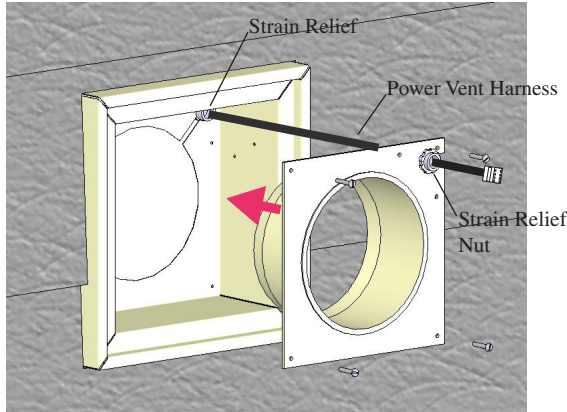

Figure 13c. Installing Power Vent Conduit.
Step 4: Insert the conduit from the Power Vent module into the rough-in frame through the two top right entry holes. Remove the nut from the supplied strain relief and place as show in **Figure 13c**.